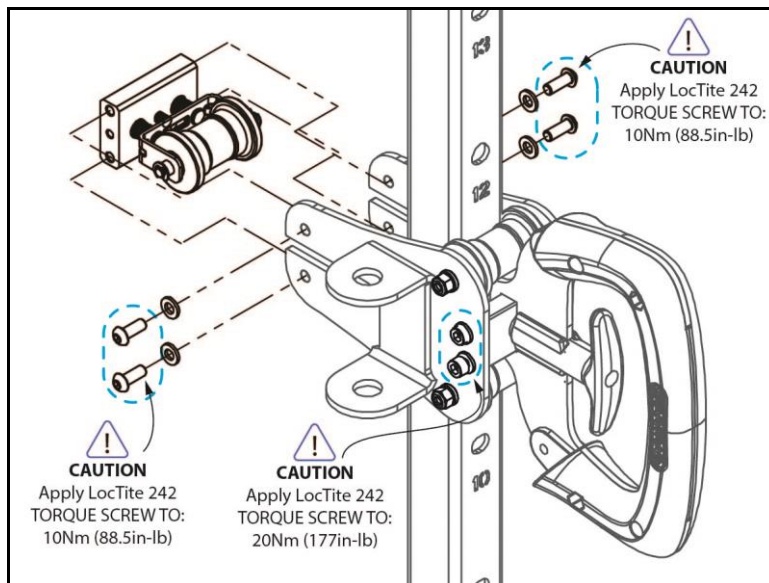

Fig. 10
- Locate the rear roller tensioning assembly along with its hardware (Fig. 10). Apply Loctite 242 (Blue) to each screw and mount them to the carriage assembly securing the hardware with a 4mm hex key and torquing all four button head screws to 10Nm (88.5in-lb).